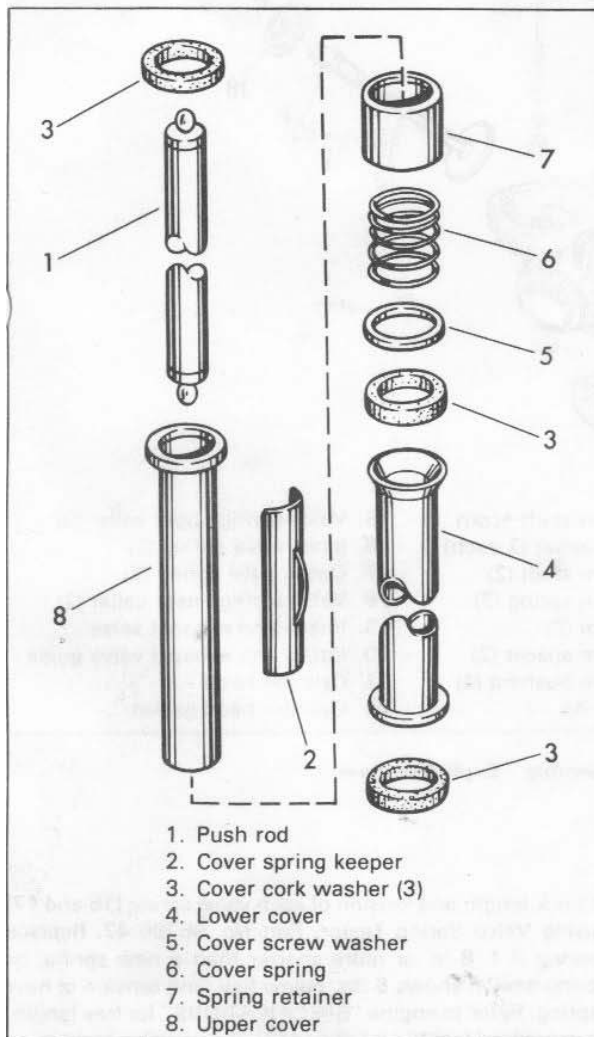
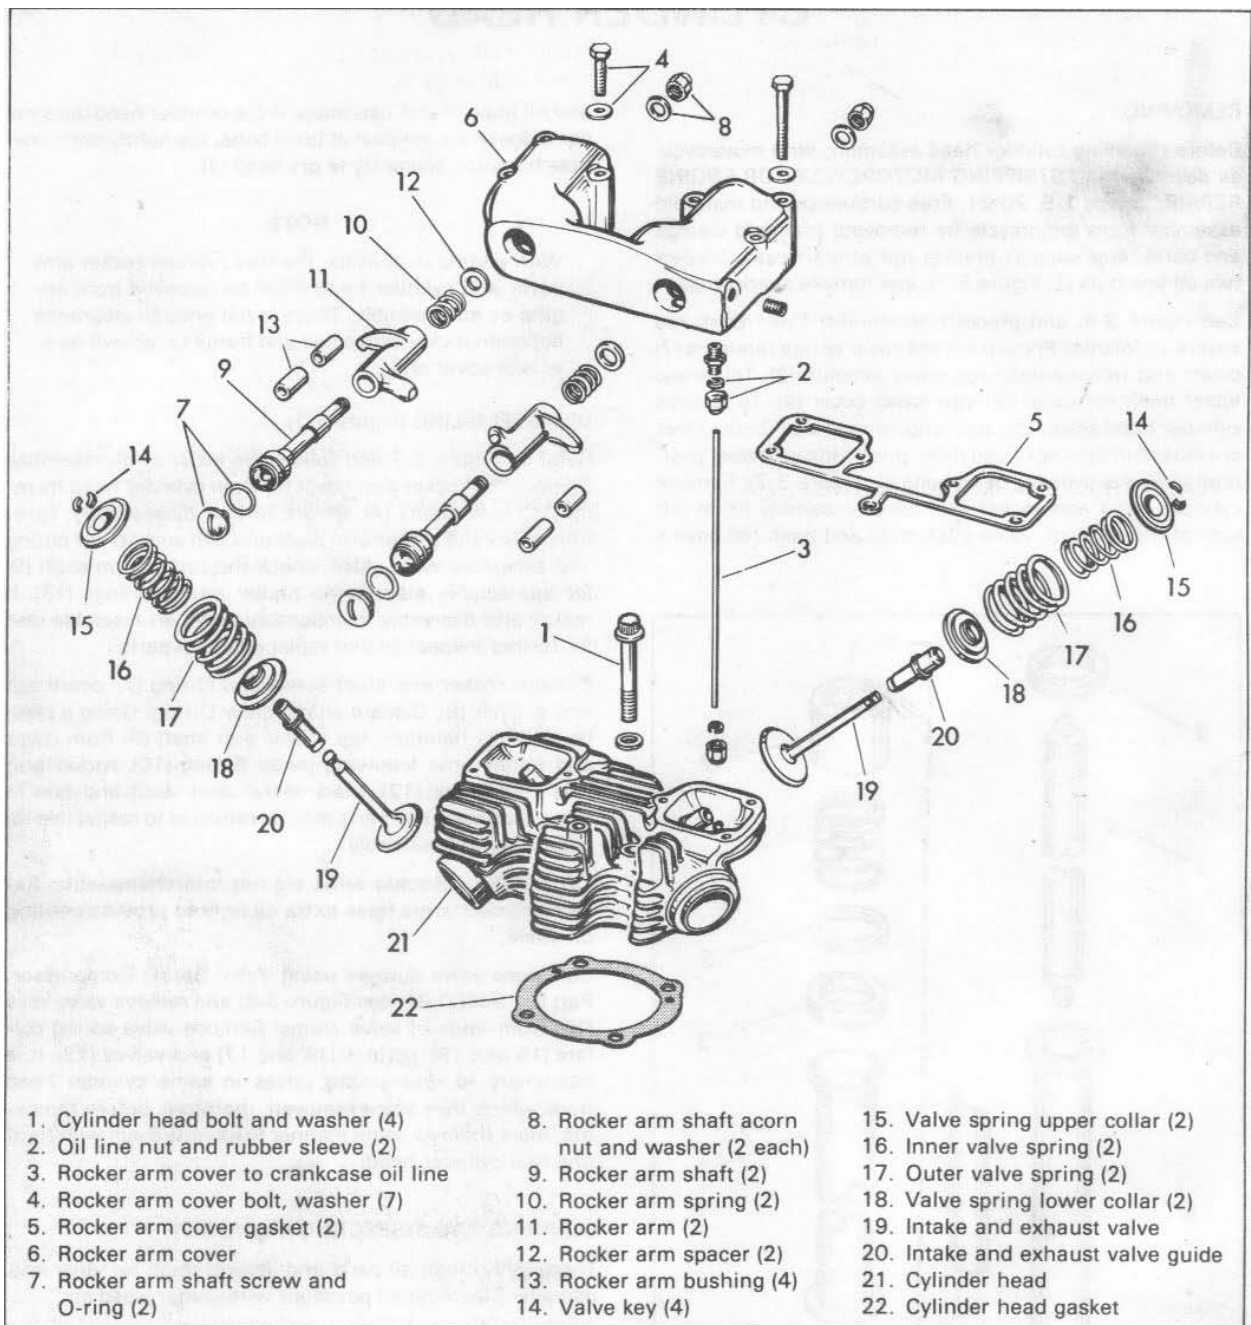

Figure 3-6. Push Rod Assembly - Exploded View
Figure 3-7. Cylinder Head Assembly - Exploded View
Before removing cylinder head assembly, strip motorcycle as described in "STRIPPING MOTORCYCLE FOR ENGINE REPAIR," steps 1-5, 20-21. Free carburetor and manifold assembly from motorcycle by removing manifold clamps and carburetor support bracket nut at crankcase. Loosen two oil line nuts (2, Figure 3-7), and remove spark plugs.
See Figure 3-6, and proceed as follows: Open push rod covers as follows: Press push rod cover spring retainers (7) down and remove push rod cover keepers (2). Telescope upper push rod cover (8) into lower cover (4). To remove cylinder head assembly, turn engine over until both valves are closed in cylinder head (both push rods in lowest position). Remove cylinder head bolts (1, Figure 3-7). Remove cylinder head and rocker arm cover assembly (from left side of motorcycle), valve push rods and push rod covers
## DISASSEMBLING (Figure 3-7)
Refer to Figure 3-7 and follow the order of disassembly. Remove the rocker arm cover (6) from cylinder head by removing cover bolts (4). Before further disassembly, carefully check the rocker arm pads and ball sockets for pitting and excessive wear. Also, check the rocker arm shaft (9) for appreciable play in the rocker arm bushings (13). If rocker arm assembly is noticeably worn, disassemble unit for further inspection and replacement of parts.
## CLEANING AND INSPECTING (Figure 3-7)
Inspect push rod (1, Figure 3-6) for damage and wear. Pay particular attention to the ball ends. If the ball ends are worn and flattened replace the push rod.
#### REPLACING ROCKER ARM AND BUSHINGS (Figure 3-7)
#### ASSEMBLING CYLINDER HEAD (Figure 3-7)
#### INSTALLING CYLINDER HEAD (Figure 3-7)
Before attempting to remove push rod and cover assembly, turn engine over until tappet is at its lowest position. Turn adjusting screw locknut (3) all the way up to end of thread on adjusting screw (2). Turn adjusting screw (2) all the way down into tappet body. Remove push rod and cover assembly by lifting push rod upward and to one side, be careful not to bind push rod upper end in aluminum rocker arm housing. Doing so may result in a bent push rod. Install new cork washers (3, Figure 3-6) in aluminum rocker arm housing and in tappet guide, being careful not to damage them and making sure they are well seated. Replace cork washer (3, Figure 3-6) in push rod cover with a new one.